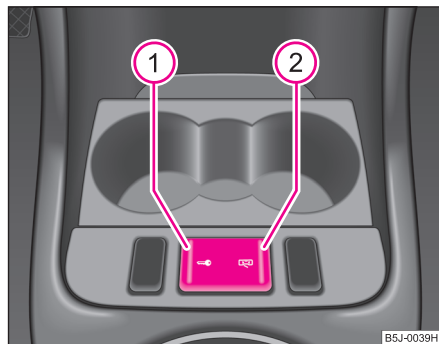

Fig. 23 Central locking switch
- Press button ① ⇒ fig. 23. The symbol  in the button comes on.
- Press button ② ⇒ fig. 23. The symbol  goes out in the button.